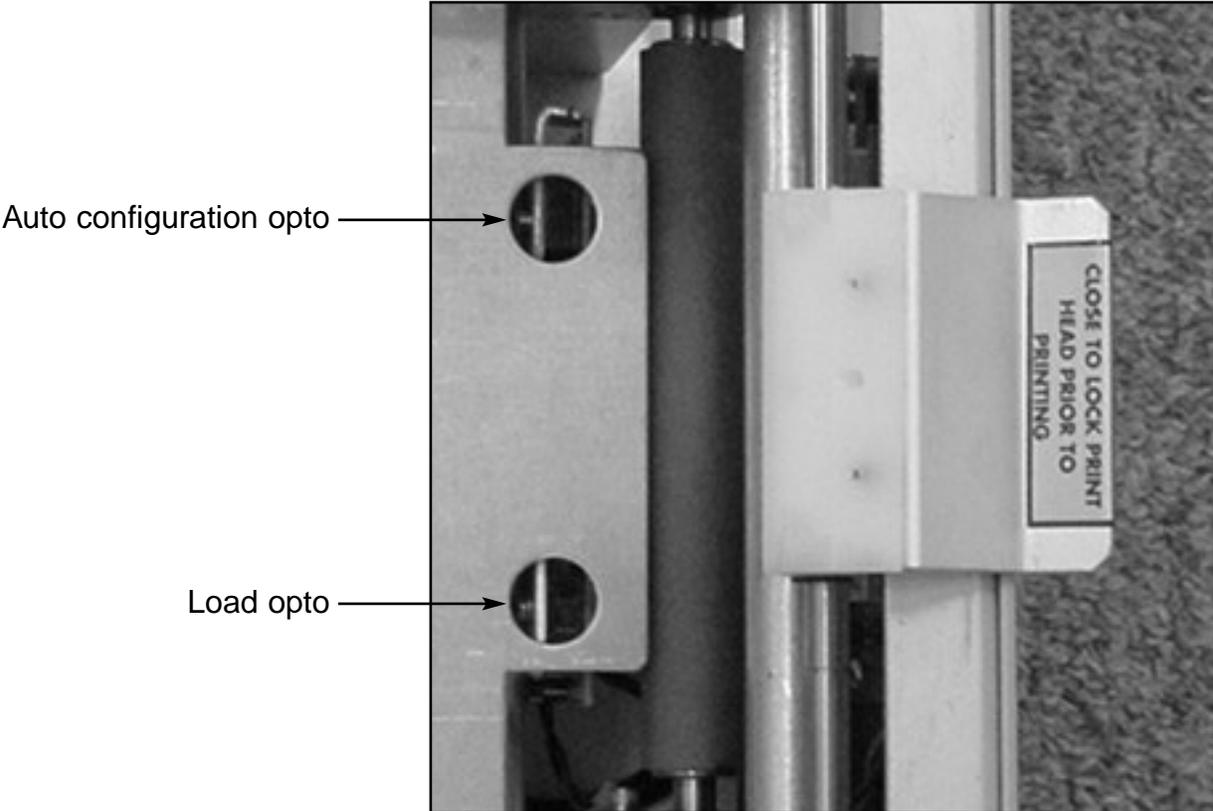

Figure 8a - Auto configuration opto and Load opto
8.1.5 Optical Devices (see figure 8a & 8b)